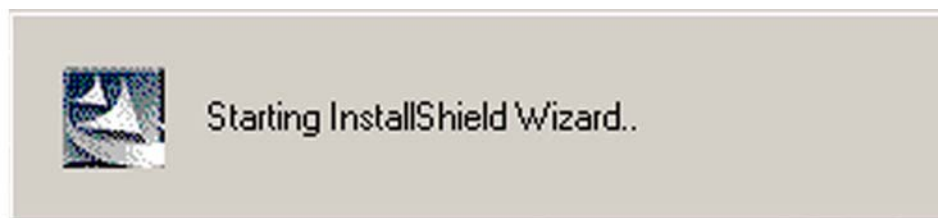

Figure 7-28: AC`97 Audio Driver Install Shield Wizard Starting
Step 4: Once you double click the **Setup** icon, the install shield wizard for the audio driver starts. See **Figure 7-28**.